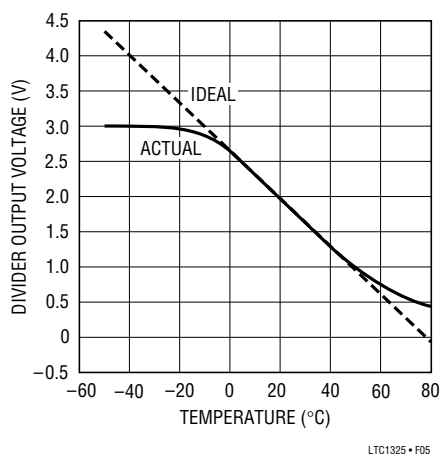

Figure 5. ERT-D2FHL103S Divider
Both values of β are close to each other. Substituting $\beta = 4085\text{k}$ into equation (3) gives $R_L = 10\text{k} [4085 - (2 \times 298)]/[4085 + (2 \times 298)] = 7.45\text{k}$. The nearest 1% resistor value is 7.5k. Figure 5 shows a plot of $V_{DIV}(T)$ measured at various temperatures for this thermistor with a 7.5k R_L .
Note that the discharge limits are wider than the charge limits. To prolong battery life, manufacturers generally recommend discharge temperatures that are similar to the charge limits. For this reason, the LTC1325 recognizes the same LTF and HTF limits in both charge and discharge modes. MCV should be set just above the charging voltage per cell given in battery specifications. The voltage at the LTF and HTF pins should be set to correspond to narrowest temperature range. These are typically 15°C and 45°C. The corresponding voltages may be read from the thermistor divider temperature curve such as that shown in Figure 5. For this thermistor, it works out to be about 2.12V for LTF and for 1.13V for HTF. The MCV may be conveniently tied to LTF since MCV is typically 2V. If desired, external analog switches under microprocessor control may be used to vary the LTF, HTF and MCV voltages between modes or for different charge rates. The values of R1, R2, R3 and R4 in Figure 3 can be calculated from the following equations: